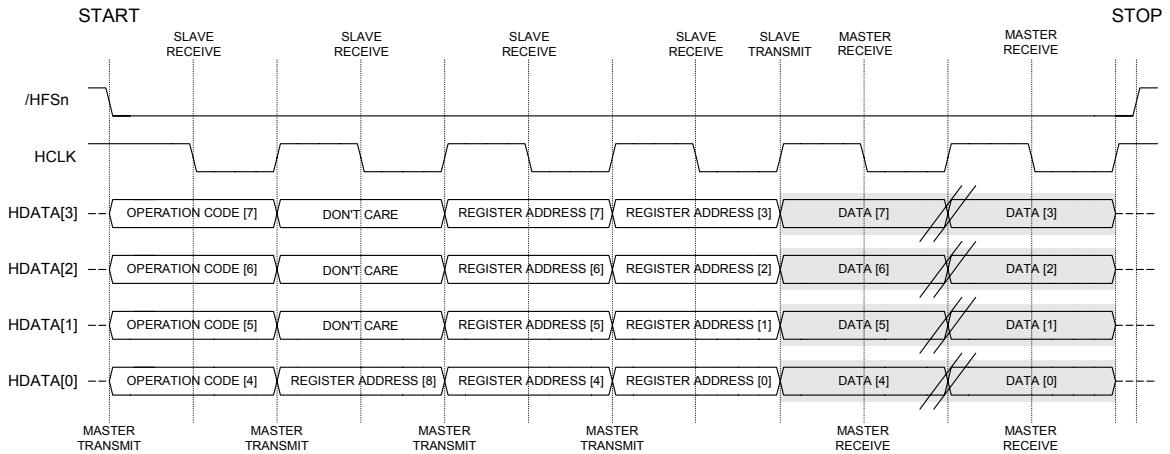

Figure 59. 6-Wire Read Operations (0x9x & 0xAx)
- Read operations can be performed in one transfer without a re-start cycle and re-send of the device address before data is sent from the slave device. Data is sent in the byte immediately following the instruction or address. Figure 59 shows the equivalent operation for the Read Address Increment transfer.